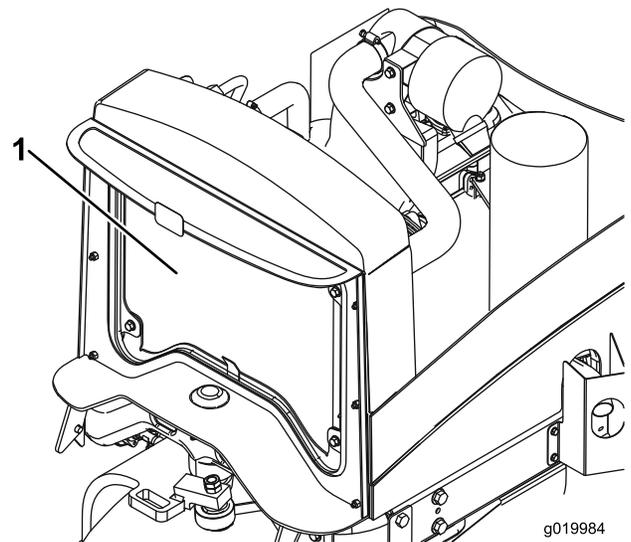

Figure 54
4. Clean both sides of the radiator/oil cooler area thoroughly with water or compressed air (Figure 54).